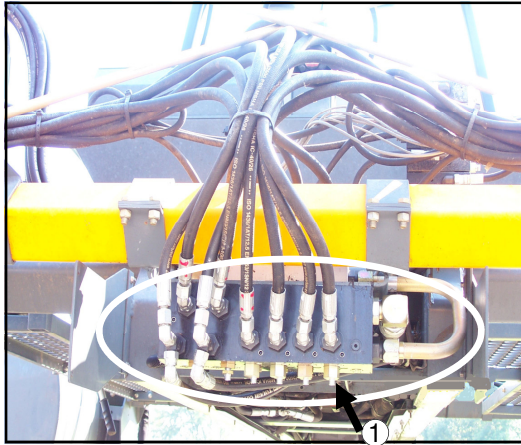
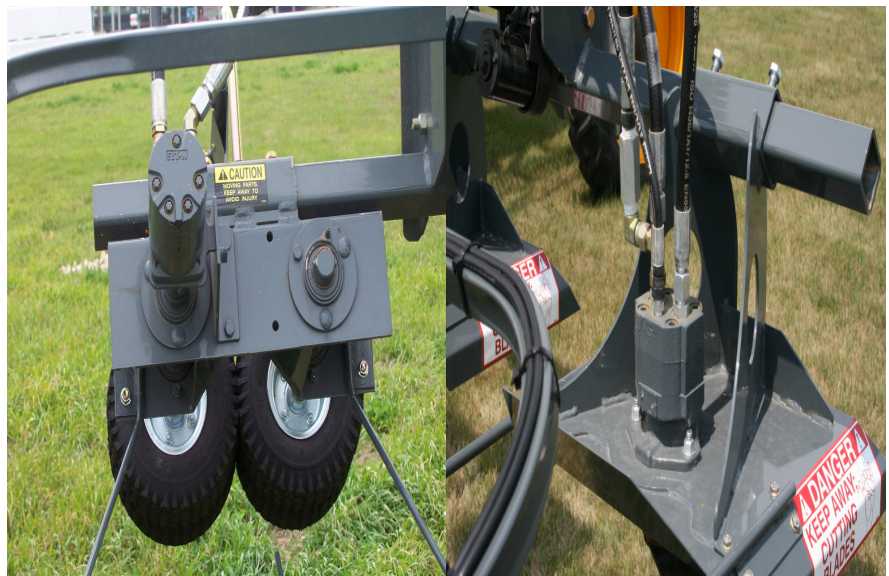

FIG 5.28
FIG 5.30
The hydraulic motors on the detasseling heads (fig. 5.30) are controlled by a master switch (fig. 5.29, item 1) and individually turned on and off with a row of switches mounted on the control panel to the right of the operator's seat (fig. 5.29, item 2). To open the solenoid on any of the motor control valves (fig. 5.28) which activates the motors, flip the corresponding switch(es) away from the operator. To shut any or all motors off, flip the corresponding switch(es) toward the operator.
Each set of motors is controlled with an adjustable needle valve (fig. 5.28, item 1) that restricts hydraulic flow to the hydraulic motors so they don't over-speed and become damaged.